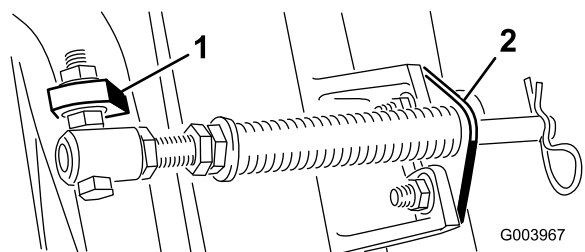

**Figure 5**
- A. Remove the 2 carriage bolts and nuts securing the rod bracket to the cutting unit tabs (Figure 5).
- B. Remove the flange nut securing the spring tube bolt to the carrier frame tab (Figure 5) Remove the assembly.